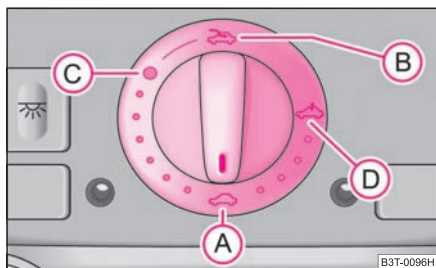

Fig. 38 Control dial for the power sliding/tilting roof
The sliding/tilting roof is operated by means of the control dial ⇒ fig. 38 and only functions when the ignition is switched on. The control dial has a number of fixed positions.
- Turn the switch to position **C** ⇒ fig. 38.
- Turn the switch to position **A** ⇒ page 50, fig. 38.
The sliding/tilting roof is equipped with an overload protection system. If an obstacle (e.g. ice) prevents closing, the sliding/tilting roof stops and opens completely. You can close the sliding/tilting roof completely without overload protection by pressing the switch to the **A** position ⇒ page 50, fig. 38 at the front for as long as it takes for the sliding/tilting roof to shut completely ⇒ .
It is necessary after each emergency operation (using crank handle) to move the sliding/tilting roof into the basic position. Here you have to press the control dial forward to switch position **A** ⇒ page 50, fig. 38 for about 10 seconds. ■